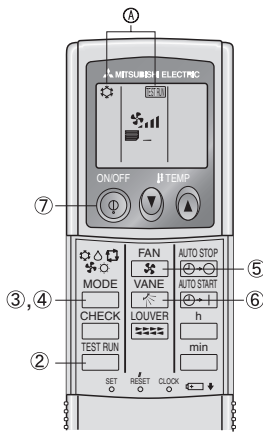

Fig. 7-2
7.2.2. Using wireless remote controller (Fig. 7-2)
- ① Turn on the power to the unit at least 12 hours before the test run.
- ② Press the  button twice continuously. (Start this operation from the status of remote controller display turned off.)